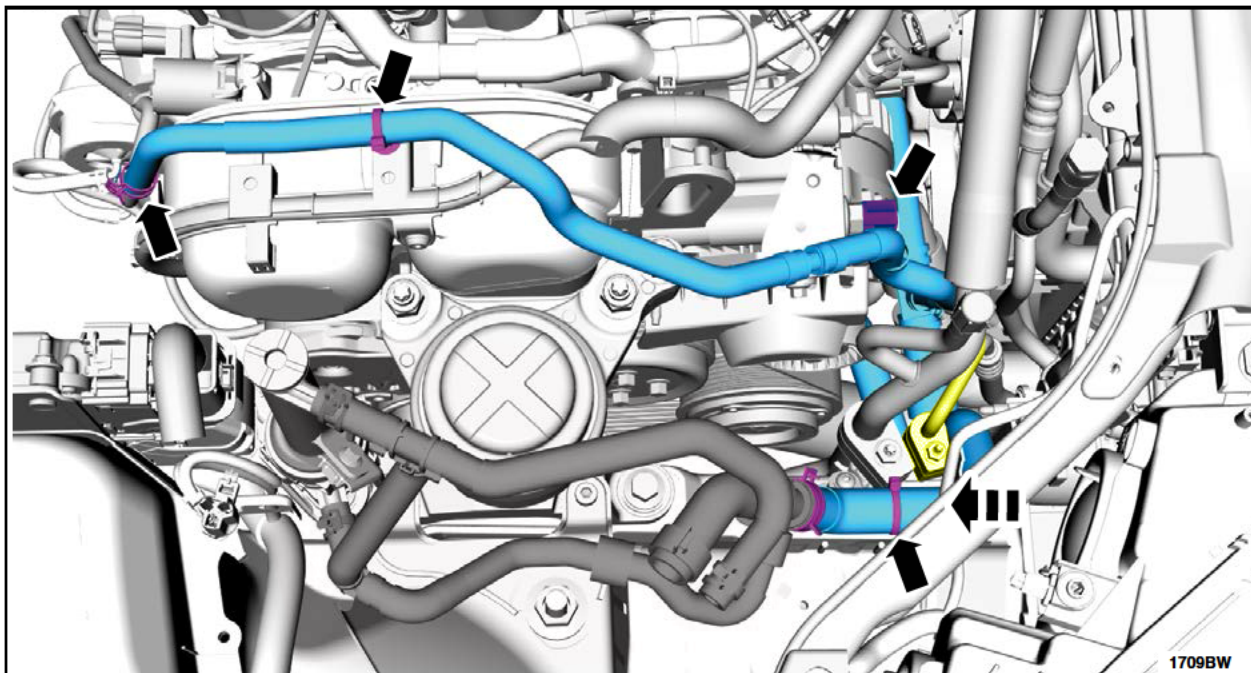

FIGURE I10
9. Route the lower degas hose upward around the A/C line and to the degas bottle area. Install the lower degas hose push pin retainers to the A/C line bracket and generator stud. See Figure I10.
10. Connect the *new* turbocharger coolant return hose and attach the retaining clip. See Figure I10.